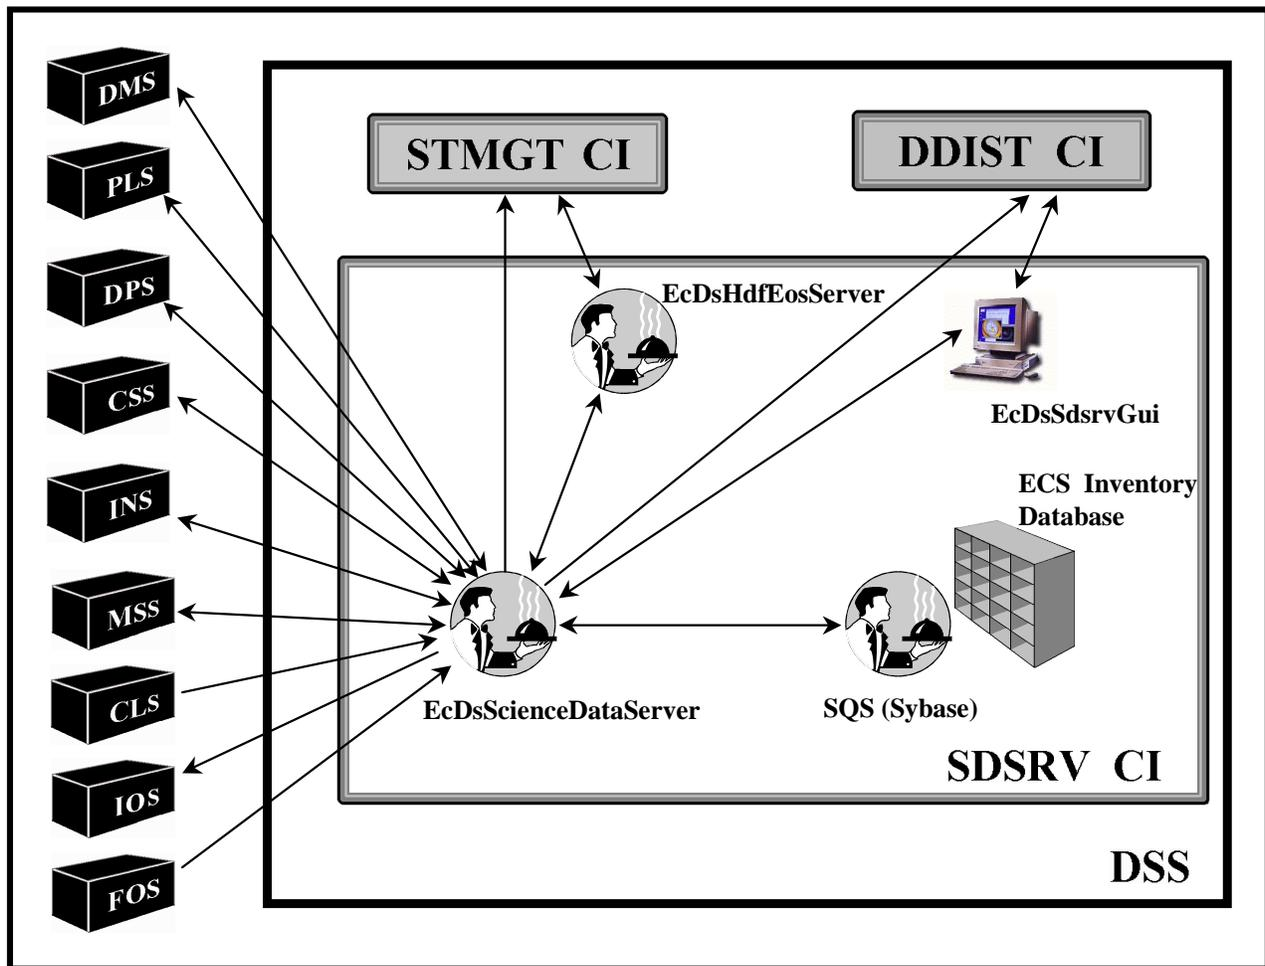

Figure 4. Science Data Server (SDSRV) CSCI Architecture
- Science Data Server (Figure 4) is the part of the DSS that manages and provides user access to collections of non-document Earth Science data.
SDSRV has the following major components (as shown in Figure 4):